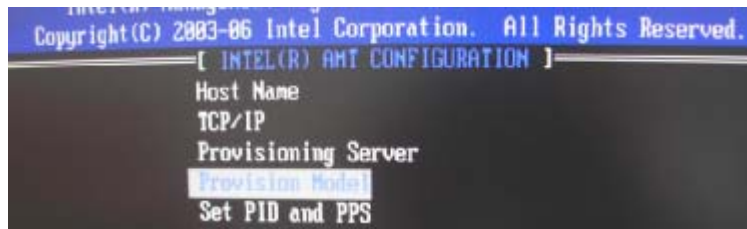

Figure 7-6: Provision Model
Step 6: Select Provision Model and press Enter. (Figure 7-6)